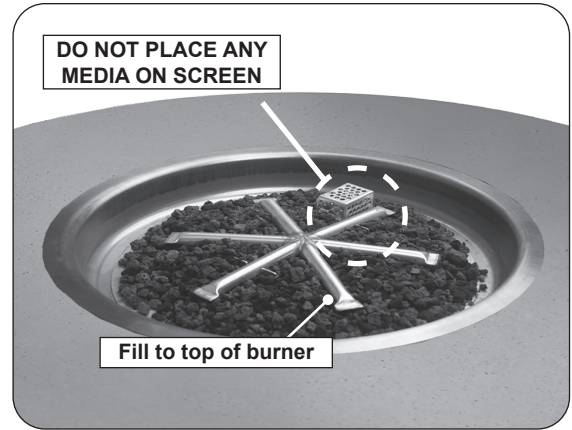
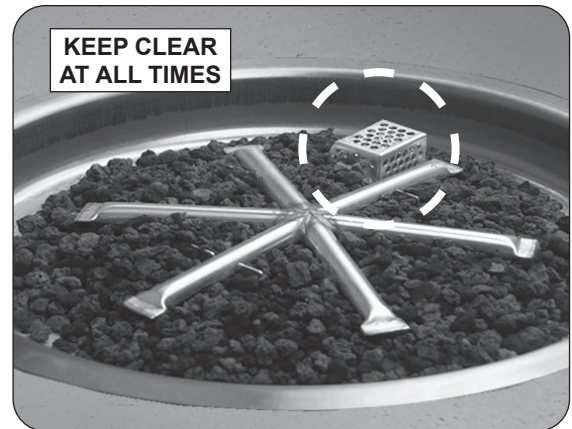

Fig. 42-1 Place lava granules
Fig. 42-2 Screen detail
1. Pour the 5 or 10 lb bag of lava granules into the burner pan (with the exception of the screen). Spread the granules within the burner area as shown in Fig. 42-1 and Fig. 42-2. **Only fill the granules up to the top of the burner tube.**